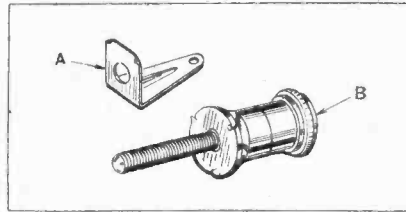

Fig. 2—Preparing clips and terminals for panel mounting.
Terminals mounted on ebonite have a tendency to work loose after a time unless particular care is taken in fitting them. The trouble may be largely overcome by tapping the holes in which they are to be inserted, but many amateurs lack the necessary equipment for carrying out this operation, and will find the alternative suggested in Fig. 2 (B) equally or more effective.
Such components as brass clips for mounting grid leaks, crystal detectors, and interchangeable condensers, will also work loose if their seating on the panel is perfectly flat, and it is recommended that their tips should be turned down as shown in Fig. 2 (A). The points thus formed will, of course, penetrate into the ebonite, and the clip will be firmly